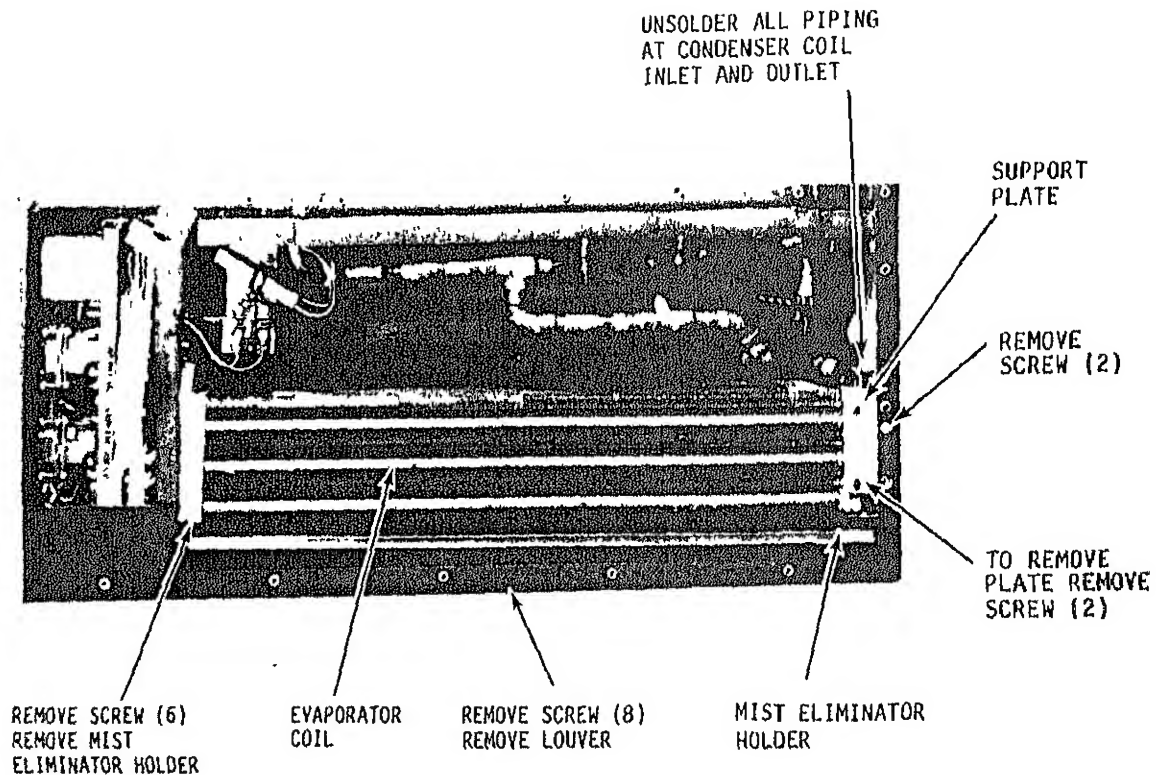

Figure 5-3. Evaporator coil and mist eliminator holder, removal and installation
(1) Install coil and mist eliminator holder in air conditioner and secure to brackets with six screws, washers, and lock washers. The upper four screws, washers and lockwashers attach both the coil and mist eliminator holder; the lower two hold the coil only.
(2) Refer to figure 5-3 and install coil support plate.
(3) Connect tubing to coil. Leak test as described in 5-6.